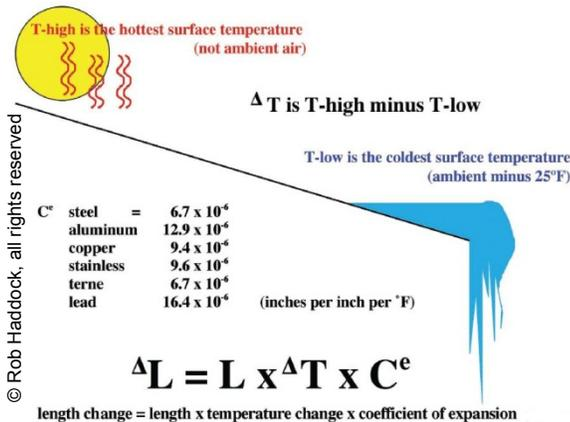

Figure 10-31
Figure 10-31 illustrates this formula and other important considerations. The term  $\Delta T$  ("delta T") means the change ( $\Delta$  "delta") in temperature (T) the panel will experience. It is found by subtracting the lowest temperature from the highest temperature ( $T_{high} - T_{low}$ ).